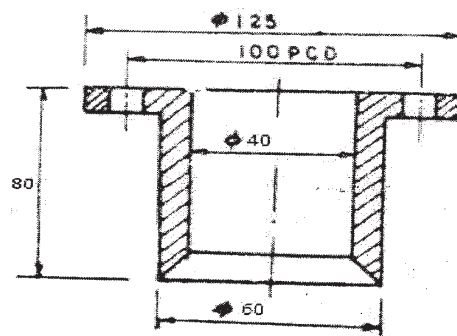

Fig.No.2
- Q12) Design a fixture for boring of size  $\Phi 8$  mm for part shown fig no.2. Draw F.V. and S.V. [20]